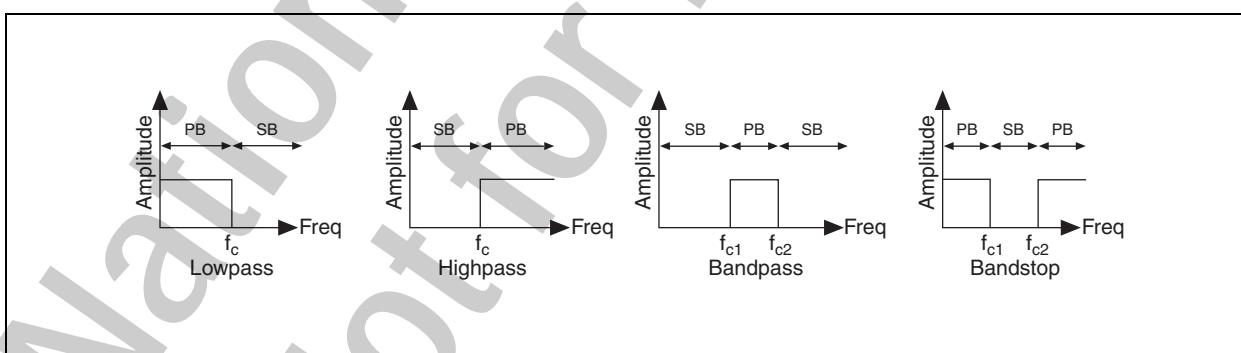

Figure B-24. Filter Passbands and Stopbands
The frequency range that passes through the filter is known as the passband (PB) of the filter. An ideal filter has a gain of one (0 dB) in the passband so that the amplitude of the signal neither increases nor decreases. The stopband (SB) corresponds to that range of frequencies that do not pass through the filter at all and are rejected (attenuated). Figure B-24 shows the passband and the stopband for the different types of filters.